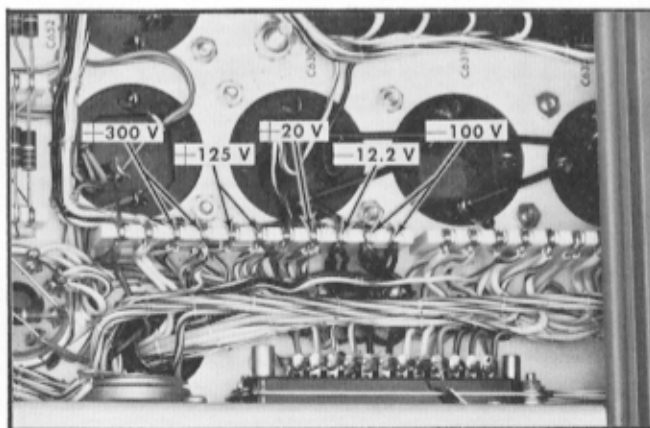
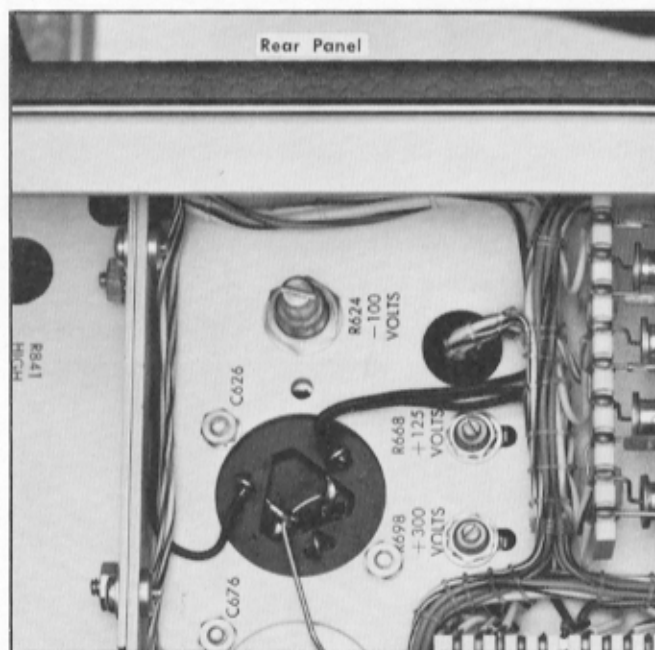
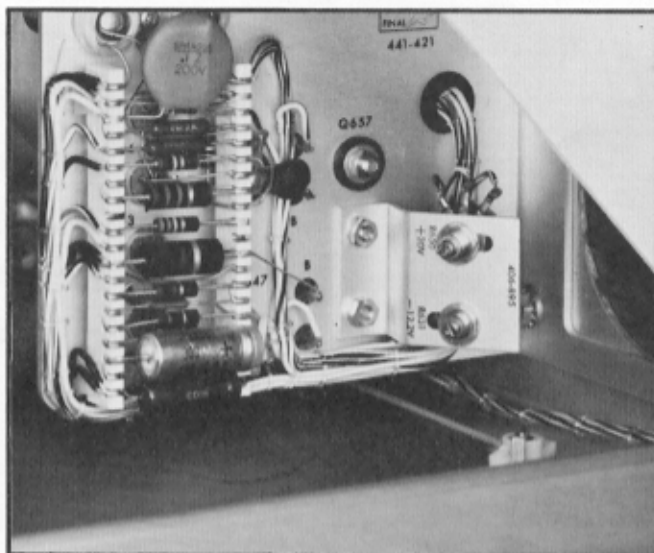

Fig. 5-3. Low-voltage power supply test points, steps 1 through 5.
Fig. 5-4. Upper chassis low-voltage power supply adjustment locations.
Fig. 5-5. Right side low-voltage power supply adjustment locations.
a. Set the autotransformer output to 117 volts (234 volts). Connect the precision voltmeter between the —100-volt test point and ground (see Fig. 5-3). If the voltage is outside the limits of —99 to —101 volts, adjust the —100 VOLTS control, R621 (see Fig. 5-4).
a. Set the autotransformer output to 117 volts (234 volts). Connect the precision voltmeter between the +125-volt test point and ground (see Fig. 5-3). If the voltage is outside the limits of +123.75 to +126.25 volts, adjust the +125 VOLTS control, R668 (see Fig. 5-4).
a. Set the autotransformer output to 117 volts (234 volts). Connect the precision voltmeter between the +300-volt test point and ground (see Fig. 5-3). If the voltage is outside the
limits of +297 to +303 volts, adjust the +300 VOLTS control, R698 (see Fig. 5-4).
a. Connect the precision voltmeter between the -12.2-volt test point and ground (see Fig. 5-3). If the voltage is outside the limits of -12.078 to -12.322 volts, adjust the -12.2 VOLTS control R631 (see Fig. 5-5).
a. Set the autotransformer output to 117 volts (234 volts). Connect the precision voltmeter between the -20-volt test point and ground (see Fig. 5-3). If the voltage is outside the limits of +19.80 and +20.20 volts, adjust the +20 VOLTS control, R650 (see Fig. 5-5).